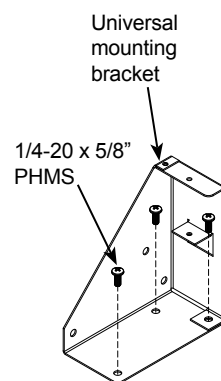

Figure 3D
5. Remove the (3) 1/4-20 x 5/8" PHM screws attaching the bracket. **Figure 3D.**
6. Move the bracket to the opposite side and attach with the (3) previously removed screws.